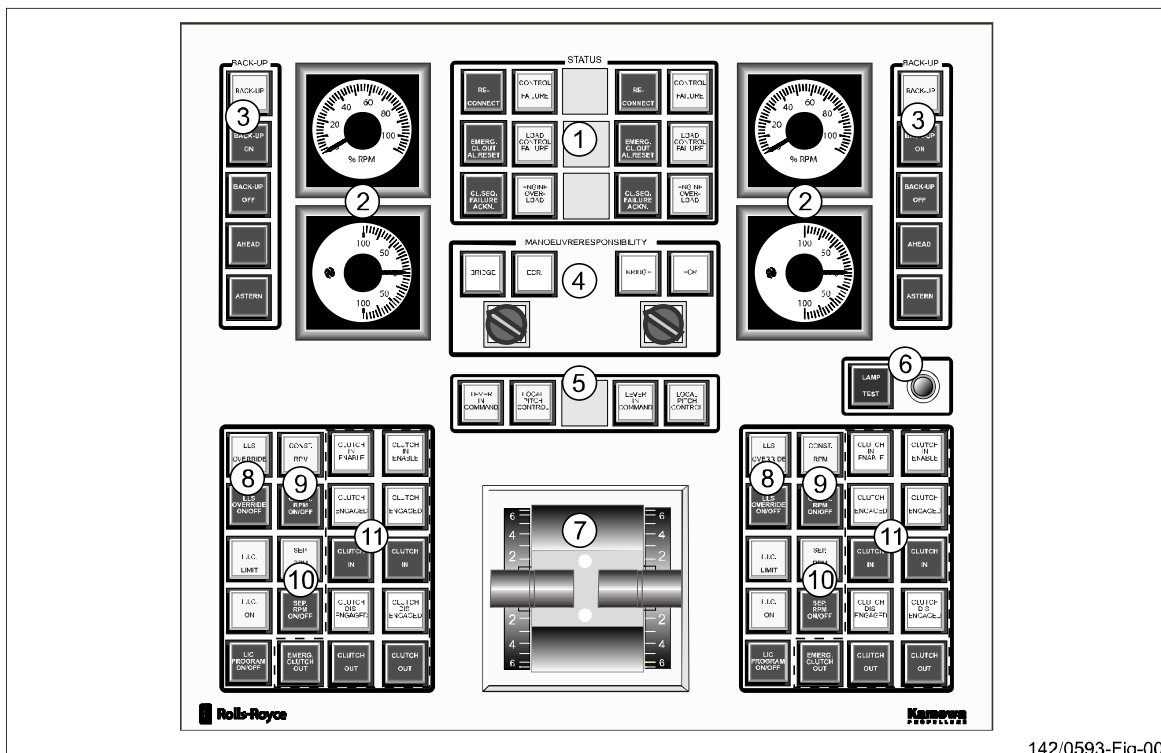

Figure 3 The main control panel in the ECR.
1. Main control panel (see figure 3)
The figure 3 shows a closer view of the main control panel in the ECR.